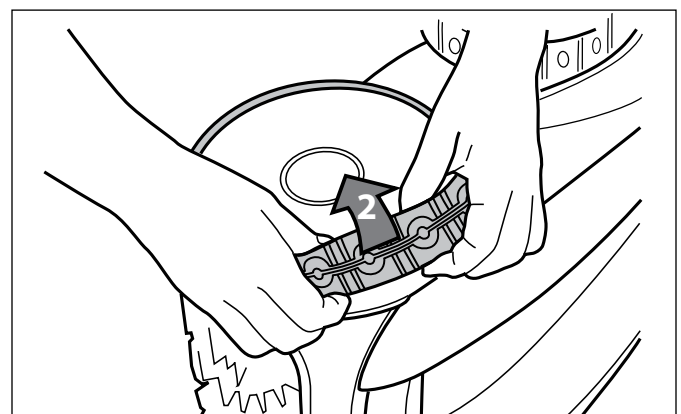

Figure 36. Remove the Old Tire
- Remove the old tire (Figure 36).